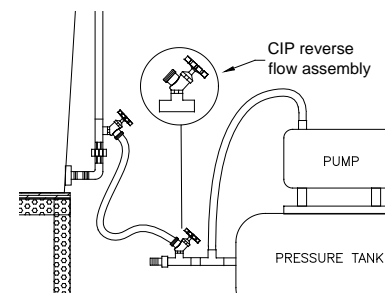

Figure 9-2
**Step 4.** Connect the CIP hose to the CIP reverse flow valve downstream of the pump. Open the valve to ensure that the flow rate restriction device is limiting the flow rate to approximately 4 litres per minute to prevent damage to the filter media. Connect the other end of the hose to the lower valve on the filter standpipe (figure 9-2). Open both valves and dispel any air in the line through the anti-siphoning valve. Close the anti-siphoning valve.
**Step 3.** Connect the CIP hose to the CIP reverse flow valve downstream of the pump. Open the valve to ensure that the flow rate restriction device is limiting the flow rate to approximately 4 litres per minute to prevent damage to the filter media. Connect the other end of the hose to the lower valve on the filter standpipe (figure 9-2). Open both valves on the CIP hose and dispel any air in the line through the anti-siphoning valve. Close the anti-siphoning valve.